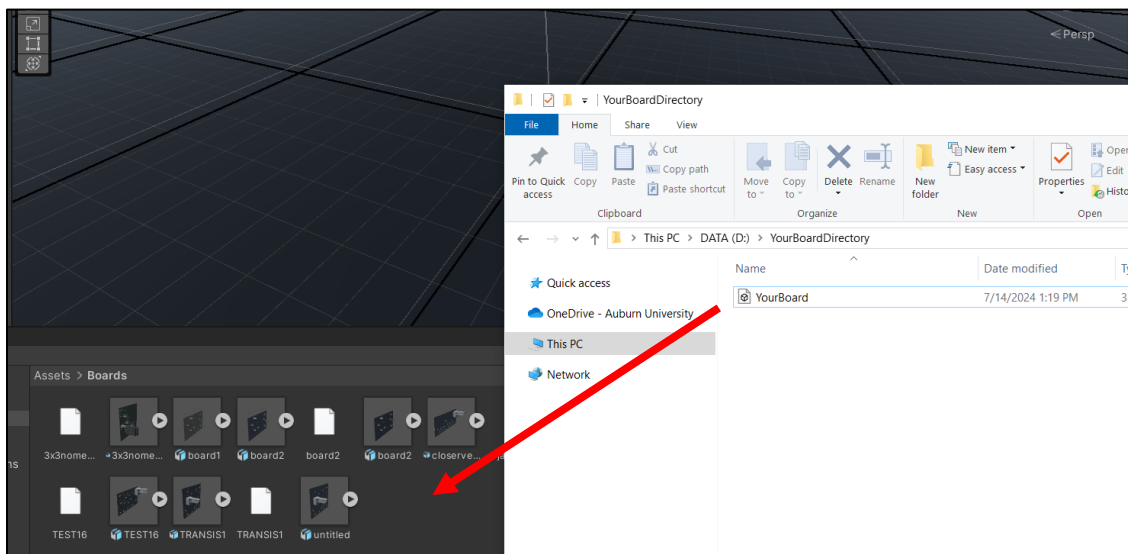

Figure 10: Importing your PCB
a. Once you have your desired PCB in a compatible file type, open the folder containing the 3D object. Next you will need to access the Boards folder that came with the simulation. This can be done through the Unity Editor, under the Project tab. Click to open the Assets folder, and find a new folder titled Boards, then click into the folder. Once here, drag and drop your board into the folder. The board will now be present in the Project tab. **** Disregard preexisting boards in Figure 10. These will not be present in your project.**